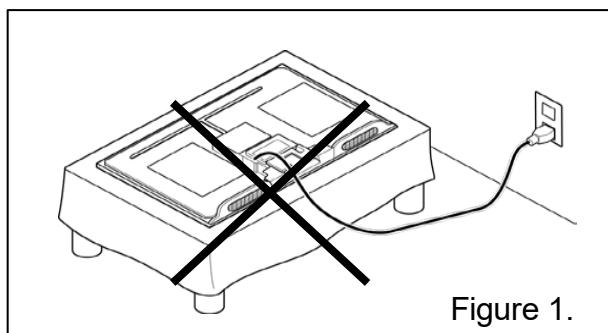

Figure 1.
- *It is not recommended to POWER ON when the panel is laid facing down during repair activity. Refer Figure 1 (Next page)